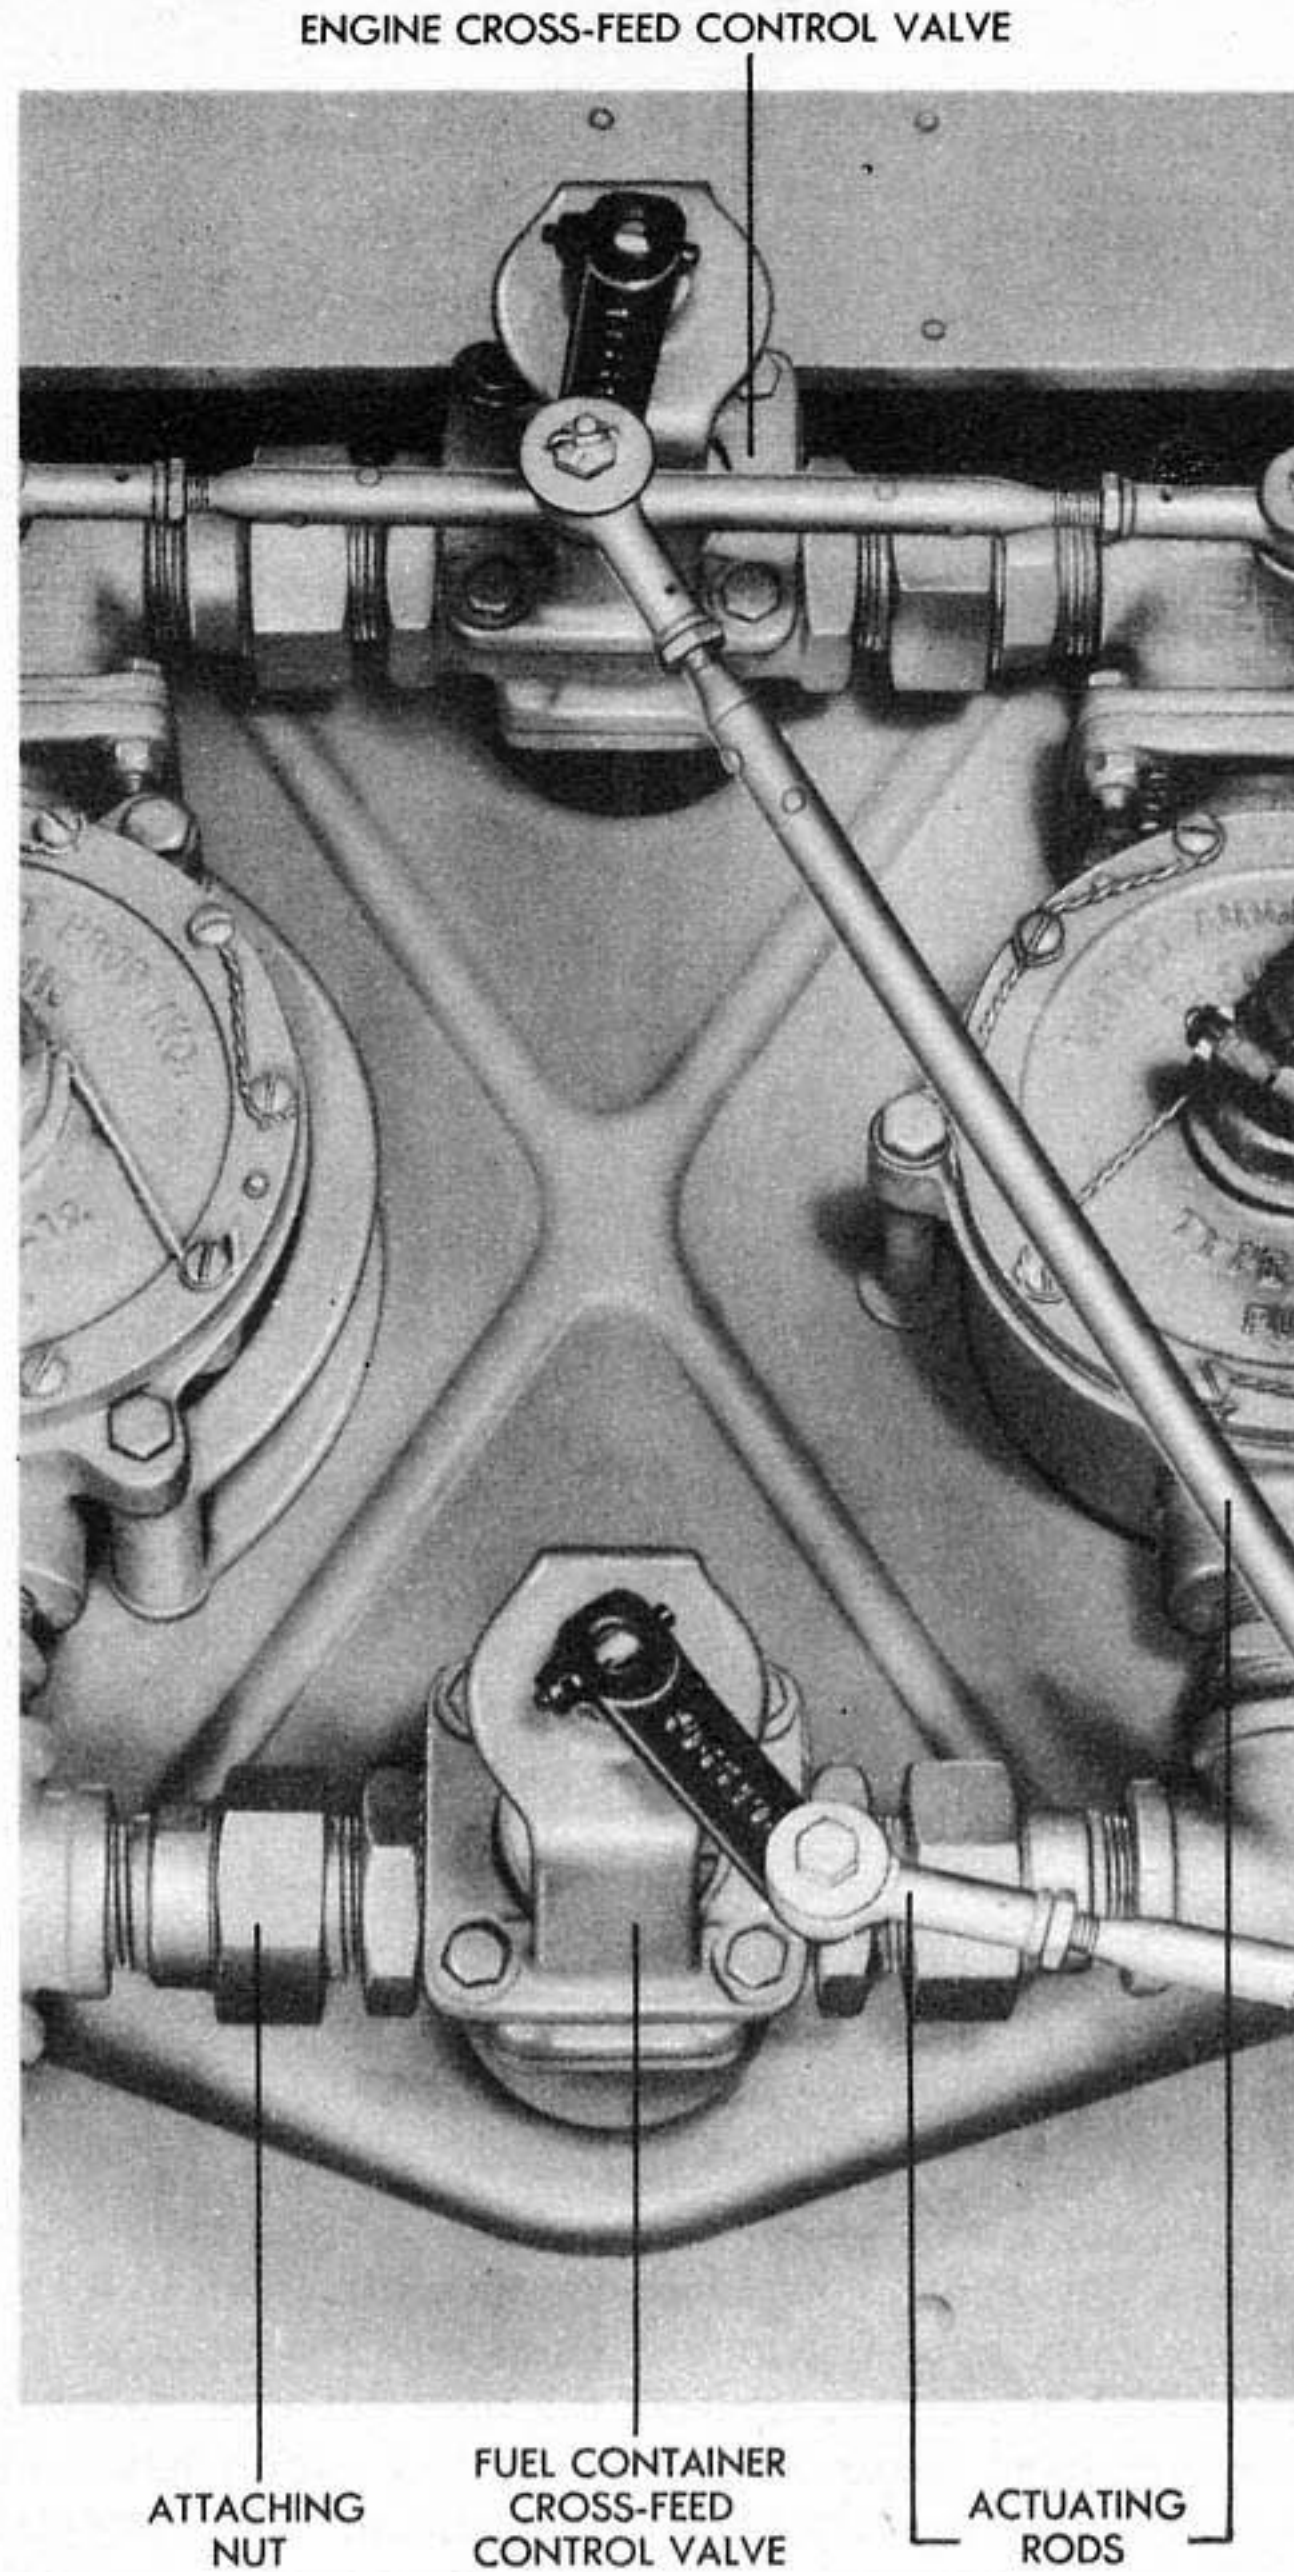

Figure 145 - INSTALLED CROSS-FEED CONTROL VALVES
(8) **CROSS-FEED CONTROL VALVES.** (See figure 145.) - Two manually operated cylindrical cross-feed control valves are mounted near the wobble pumps on the aft bombbay bulkhead at Station 156. One valve is installed in the engine (pressure) cross-feed line and the other is installed in the tank (suction) cross-feed line. These valves are interchangeable. The valves are controlled through a system of cables and rods from a dial and handle assembly mounted with the fuel tank selector valve controls on the panel on the left side of the pilot's cockpit.